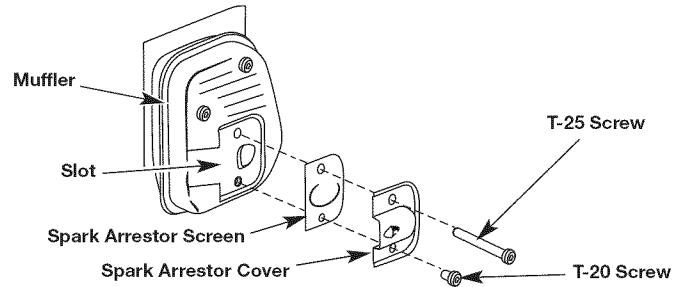

Fig. 35
2. With a flat blade screwdriver, or a Torx T-20 bit and a T-25 bit, remove the 2 screws attaching the spark arrestor cover to the muffler (Fig. 35).